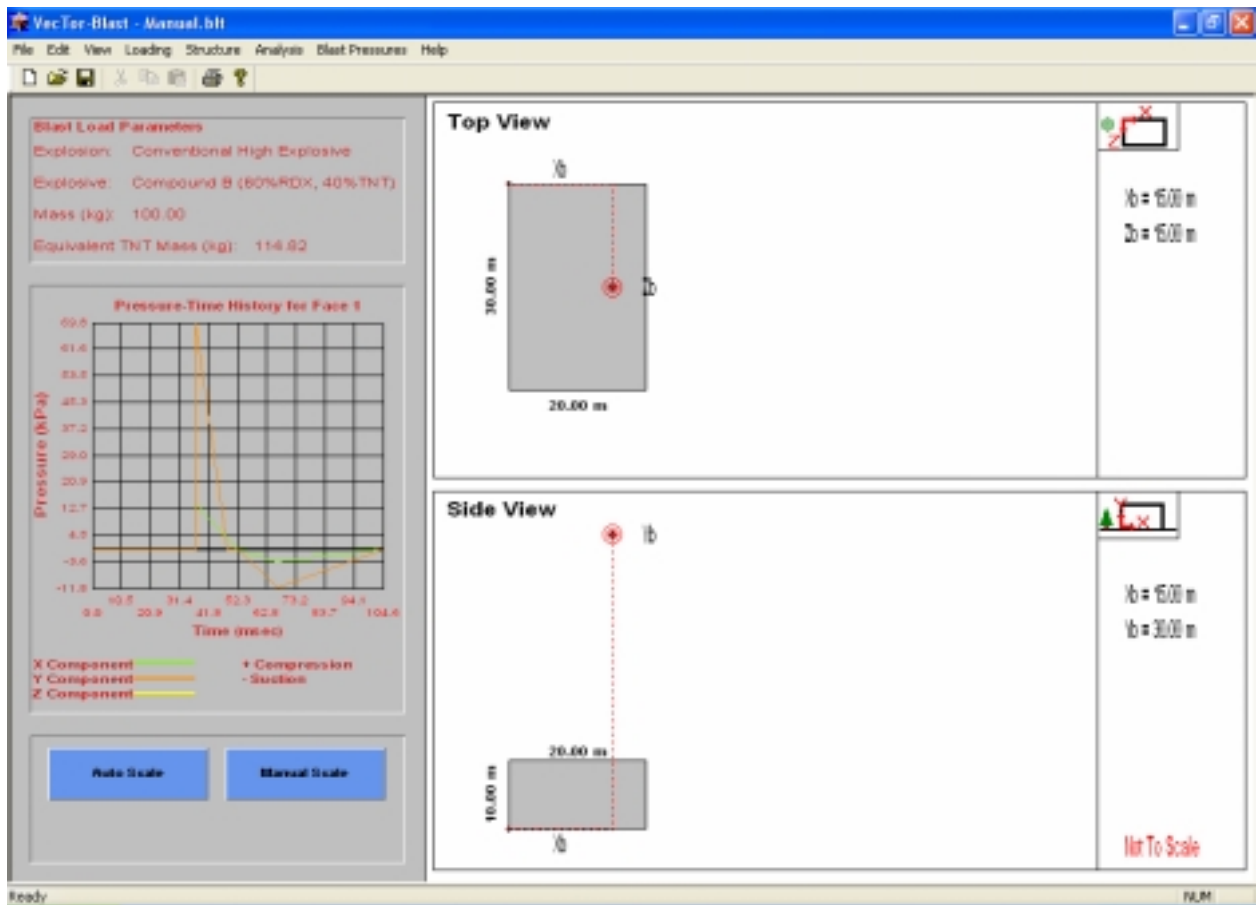

Figure 16 Example view with graph.
10. Click **OK**. The graph is displayed as shown in Figure 16.